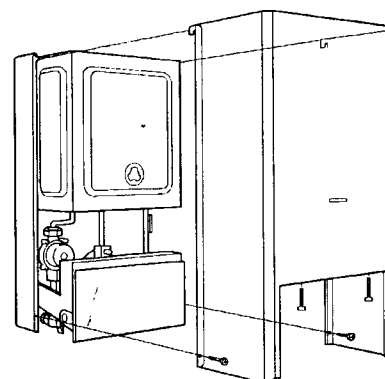

Fig. 24
6.15 Refixing the Front Cover fig. 24
Slide the casing downwards to fully engage the hooks and to align the bottom fixing holes. Replace the four case retaining screws. (fig. 24)